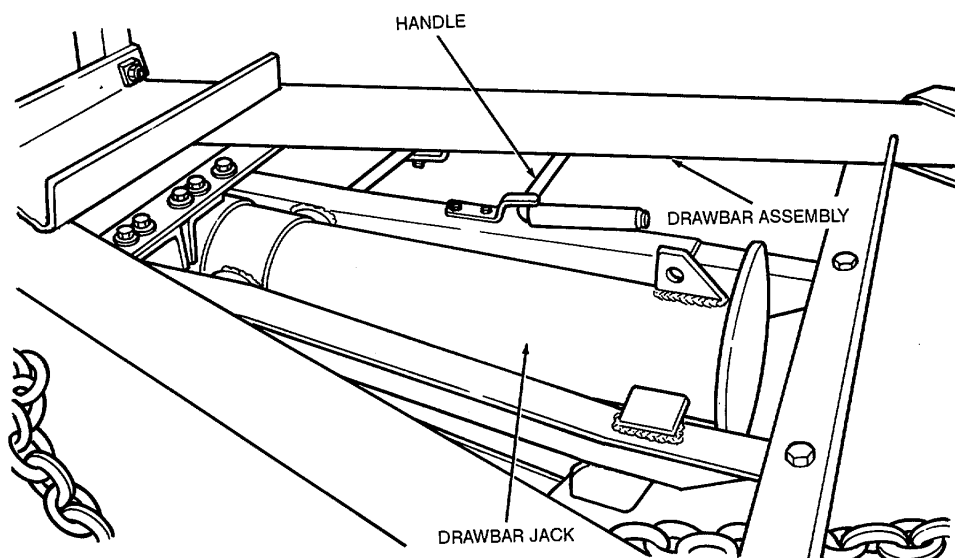
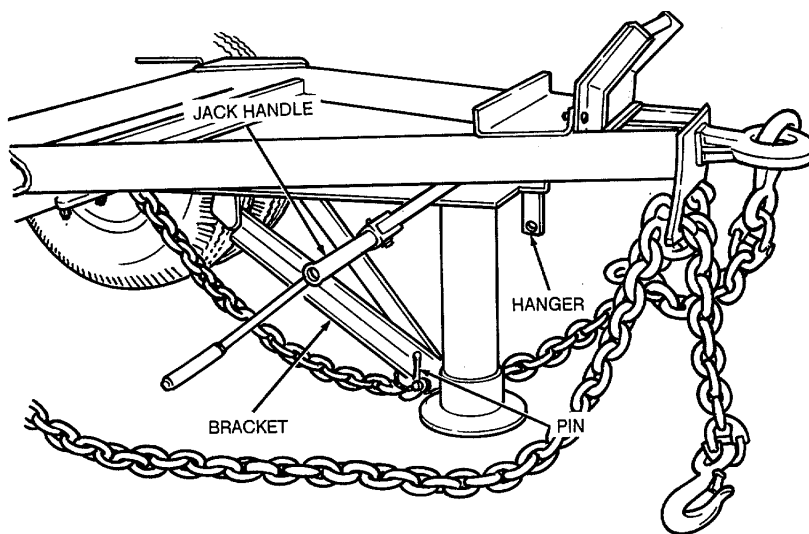

Figure 6. Drawbar leveling jacks, stowed position, serial numbers 6590 through 6629.
Figure 7. Drawbar leveling jack, installed position, serial numbers 6590 through 6629.
f. Remove the drawbar jack from stowed position (fig. 6). Install the drawbar jack (fig. 7) (on units of equipment within serial number range 6590 through 6629).